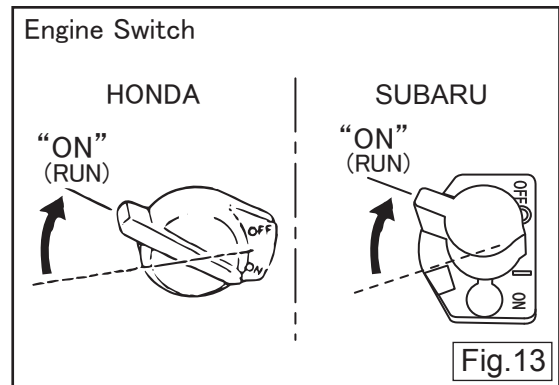

Fig.13
- Turn the stop switch to "ON (I)" position. (Fig.13)